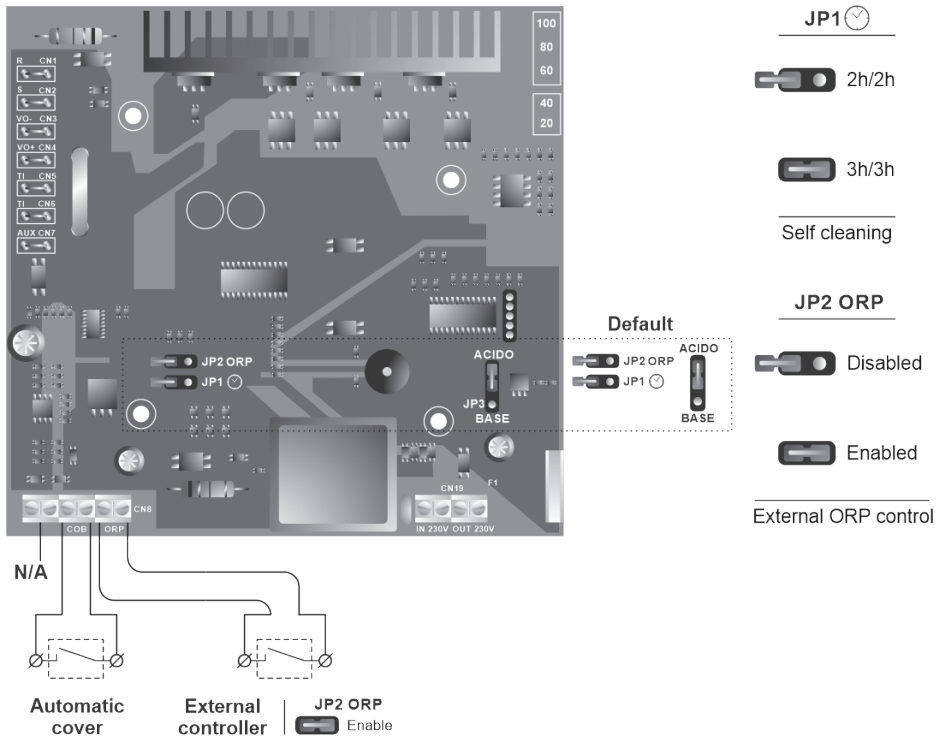

Fig. 11
- **ELECTRODE SELF-CLEANING System:** The reversal frequency can be selected by means of jumper “JP1” on the system control panel (Fig. 11). This configuration will become effective by disconnecting and connecting again the equipment.